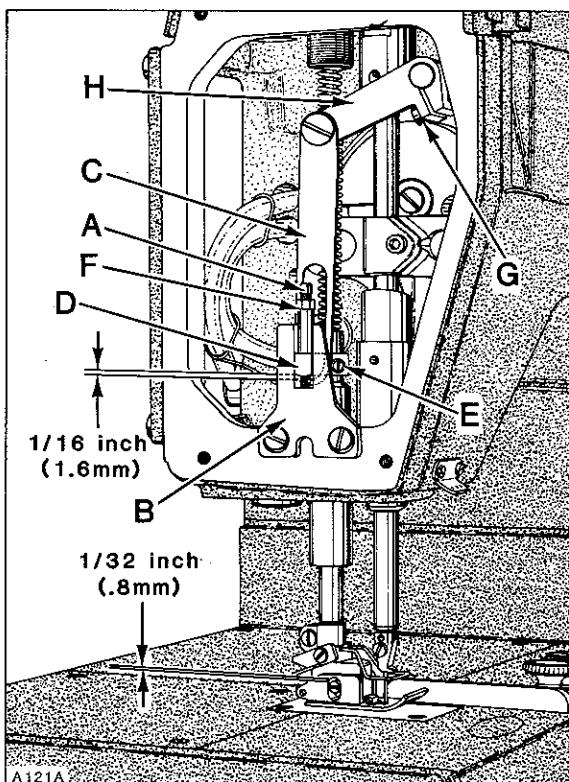
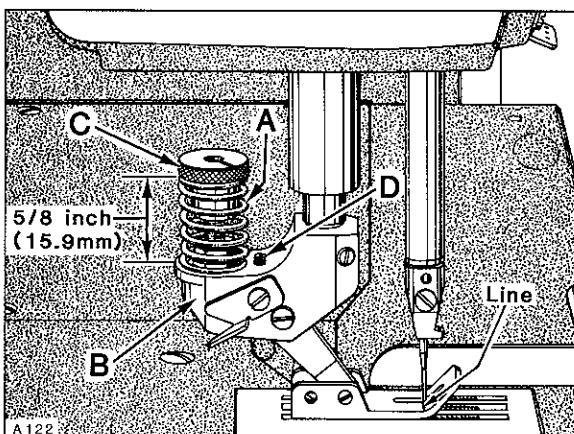

Fig. 19
Fig. 20
With needle bar at bottom of stroke and presser foot resting squarely on throat plate, there should be minimum clearance of  $1/64$  inch (0.4mm) between the bottom of screw (A, Fig. 19) and bottom of slot in presser bar guide plate (B). There should also be  $1/16$  inch (1.6mm) clearance between bottom of slot in lifter lever link (C) and bottom of presser bar guide (D) when foot lifter lever is released. If adjustment is required, proceed as follows:
With needle bar at bottom of stroke and presser foot resting on throat plate, there should be 1/32 inch (.8mm) clearance between top of screw and top of slot in presser foot as shown in Figure 19. There should be 1/16 inch (1.6mm) clearance between bottom of slot in lifter lever link (C) and bottom of presser bar guide (D) when foot lifter lever is released. If adjustment is required, proceed as follows: Loosen nut (F) and turn screw (A) down approximately 1/8 inch (3.2mm) below bottom surface of presser bar guide (D). Back off presser spring regulating screw and loosen screws (E) in presser bar guide (D) so that presser foot is sitting squarely on throat plate and screw (A) is touching the bottom of the presser bar guide plate, then secure screws (E).
With presser foot resting on throat plate and the needle in its lowest position, the distance from top of spring (A, Fig. 20) to top of yoke (B) should be 5/8 inch (15.9mm) and the line stamped across the presser foot bottom should line up with centerline of needle.
As the presser foot is raised, its bottom should move VERY SLIGHTLY towards the rear...1/64 inch (.4mm) maximum. If adjustment is required, proceed as follows: Remove presser spring regulating screw, presser bar spring guide and presser bar spring. Loosen nut (F, Fig. 19) and turn screw (A) down approximately 1/8 inch (3.2mm) below bottom surface of presser bar guide (D). Loosen screws (E) in presser bar guide (D). Adjust spring regulator nut (C, Fig. 20) as required so its lower surface is 5/8 inch (15.9mm) from top of yoke (B) as viewed in Fig. 20. With presser foot resting on throat plate and feed dog down below throat plate, press down on spring regulator nut (C) until the marks in presser foot bottom align with centerline of needle and positioned to keep needle in center of needle slot. Tighten screws (E, Fig. 19) securing presser bar guide to presser bar, ensuring stop screw (A) in presser bar guide is resting on bottom of presser bar guide plate. Replace presser bar spring, presser bar spring guide and presser spring regulating screw. Turn regulating screw down until the top of its threaded portion is level with head casting. Rotate handwheel to position feed below throat plate with presser foot resting on throat plate. Depress presser foot lifter lever to see if presser foot bottom moves SLIGHTLY towards the rear before presser foot begins to lift.
Adjustment can be made by turning stop screw (D, Fig. 20) clockwise to shorten or counterclockwise to lengthen the distance of travel.
Loosen screw (G, Fig. 19) in lifter arm (H) and rotate arm slightly as required to obtain 1/16 inch (1.6mm) clearance between link (C) and guide (D); retighten screw (G), assuring all end play is removed from lifter arm (H).
Purpose of the feeding presser foot is to make top and bottom plies of material feed the same amount without pulling on the bottom ply. Final adjustment may be required to match plies; turning nut (C, Fig. 20) to increase pressure on spring (A) will tend to feed the bottom ply more...decreasing pressure will tend to feed the top ply more.